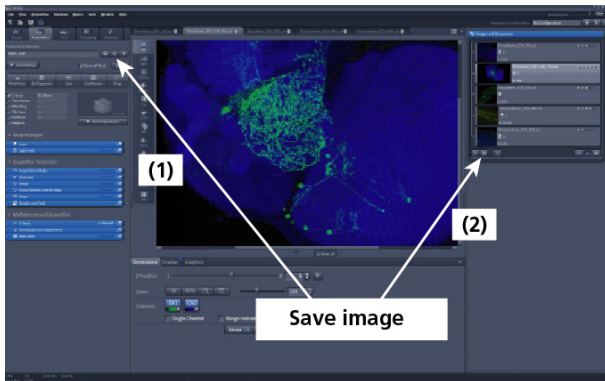

Fig. 27 Save Image buttons in ZEN
- To save your acquired or processed images, click on the **Save** or **Save As** button in **File** menu, or click the  button in the main toolbar (Fig. 27/1), or click on the  button at the bottom of the **File Handling Area** (Fig. 27/2).